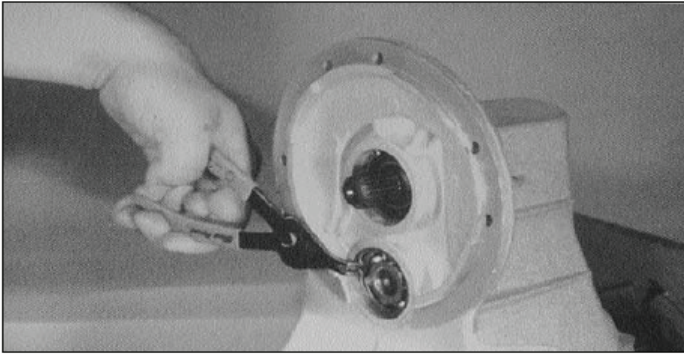

Figure 7-17. Removing Snap Rings
13. Remove snap rings (16) from each intermediate bore. See Figure 7-17.